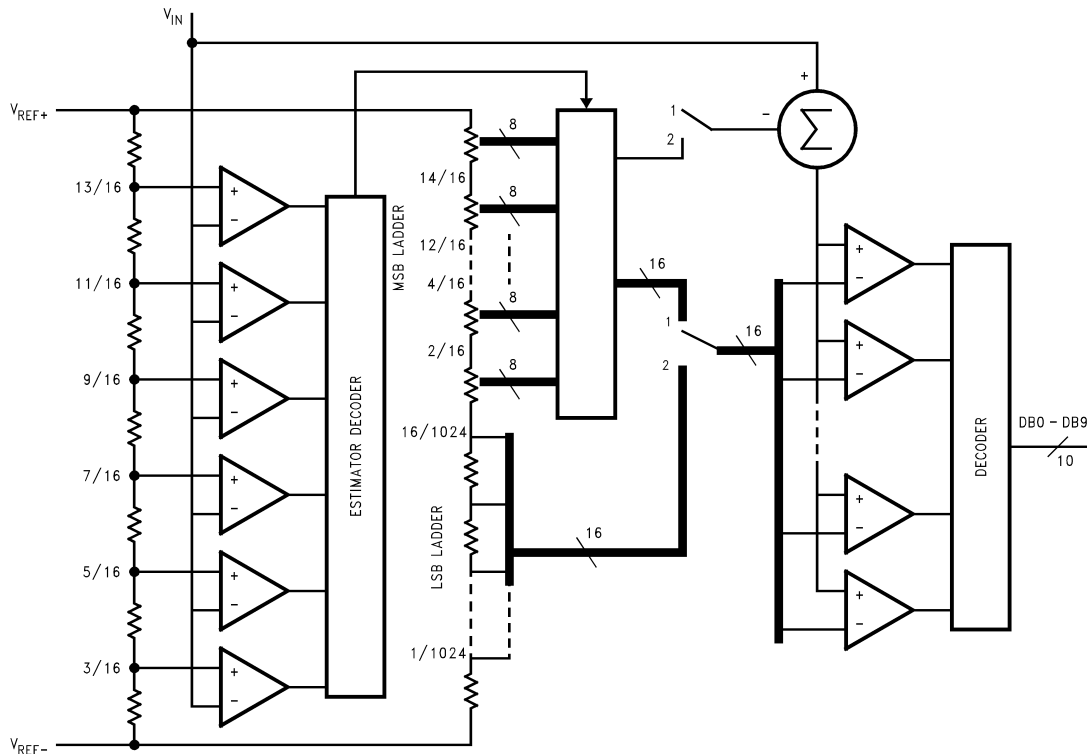

Figure 20. Block Diagram of the Multistep Converter Architecture
**Figure 20** is a simplified block diagram of the converter. Near the center of the diagram is a string of resistors. At the bottom of the string of resistors are 16 resistors, each of which has a value  $1/1024$  the resistance of the whole resistor string. These lower 16 resistors (the **LSB Ladder**) therefore have a voltage drop of  $16/1024$ , or  $1/64$  of the total reference voltage ( $V_{REF+} - V_{REF-}$ ) across them. The remainder of the resistor string is made up of eight groups of eight resistors connected in series. These comprise the **MSB Ladder**. Each section of the MSB Ladder has  $1/8$  of the total reference voltage across it, and each of the LSB resistors has  $1/64$  of the total reference voltage across it. Tap points across these resistors can be connected, in groups of sixteen, to the sixteen comparators at the right of the diagram.